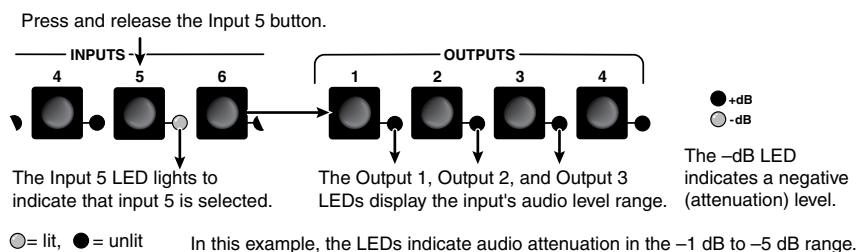

Figure 3-36 — Select an input
2. Press and release the Input 5 button (figure 3-36).